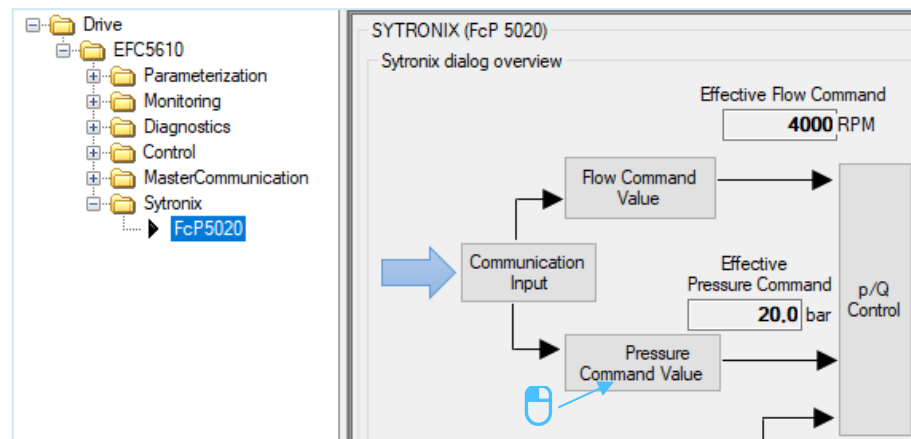

Abb. 22: Pressure command value fixed 1/2
1. Press "Pressure Command Value" (see Abb. 22: Pressure command value fixed 1/2).